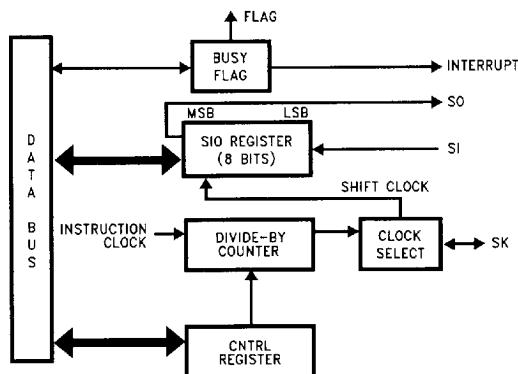

FIGURE 13. MICROWIRE/PLUS Block Diagram
ers, E2PROMs etc.) and with other microcontrollers which support the MICROWIRE interface. It consists of an 8-bit serial shift register (SIO) with serial data input (SI), serial data output (SO) and serial shift clock (SK). Figure 13 shows a block diagram of the MICROWIRE/PLUS logic.